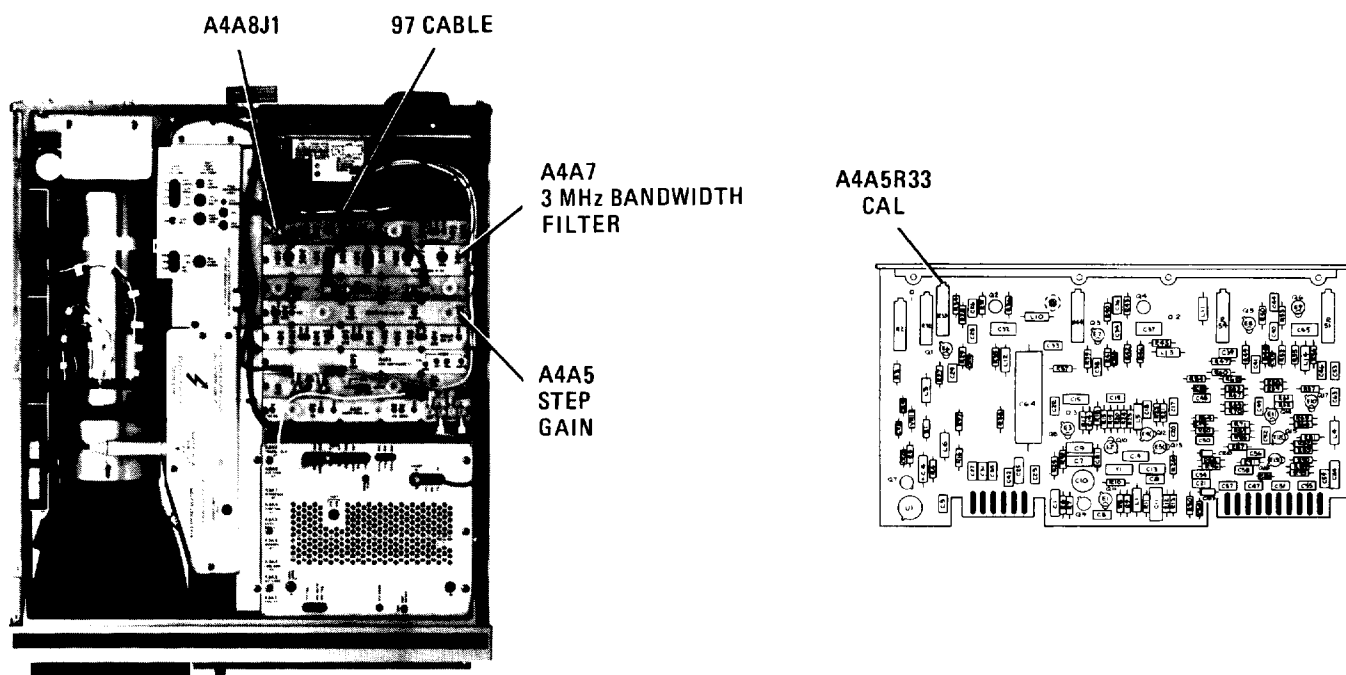

FIGURE 33. LOCATION OF IF GAIN ADJUSTMENT
5. Disconnect 97 (white/violet) cable from A4A8J1 and connect cable to power meter/power sensor. Refer to Figure 33 for location of 97 cable and A4A8J1.
9. Note **MARKER** amplitude in mV and adjust A4A5R33 CAL to 70.7 mV (top CRT graticule line). Refer to Figure 33 for location of adjustment.